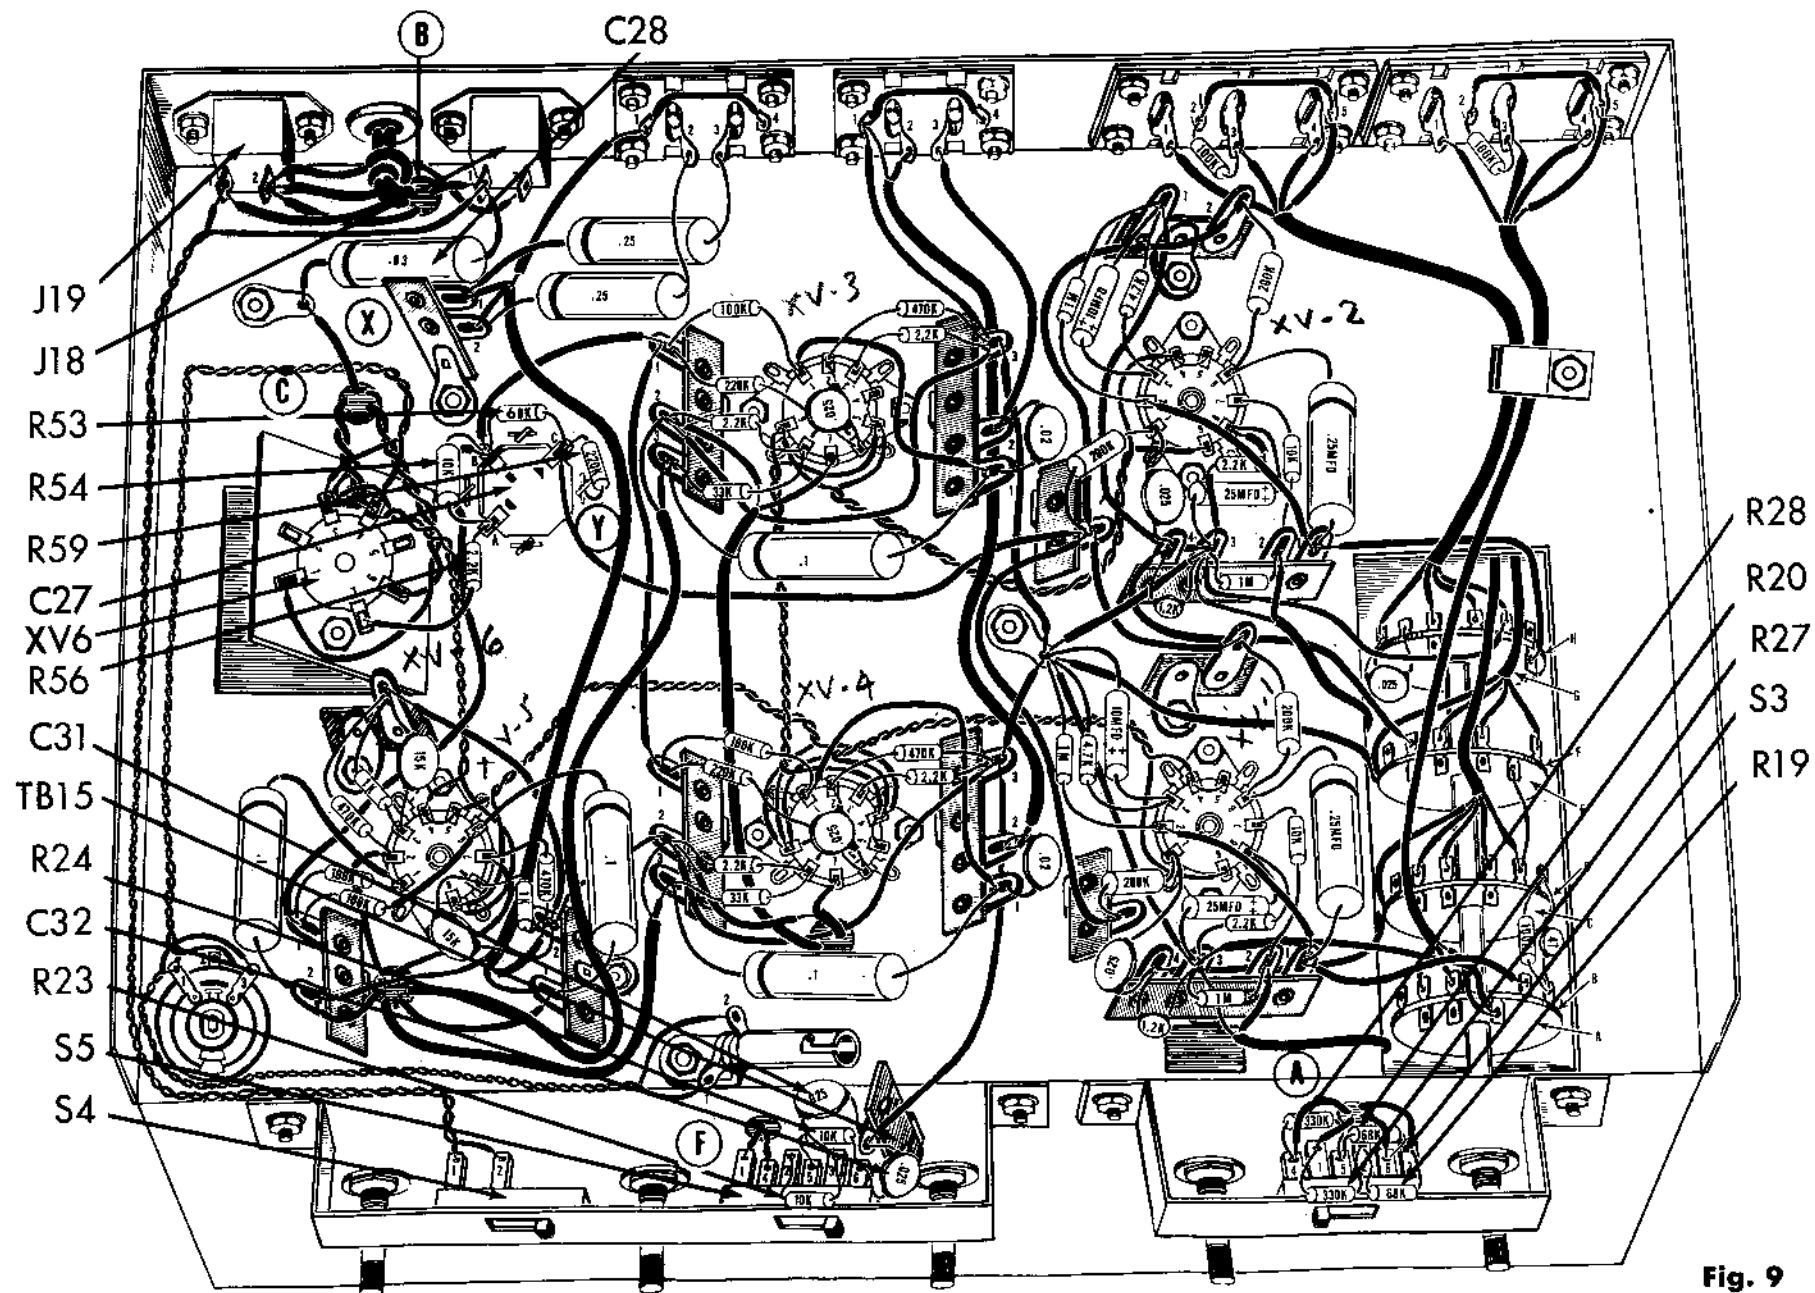

Fig. 9
- ✓ 1. (✓) Fig. 9. On slide switch S3, terminal 1, 2, and 3 are toward the bottom of the chassis (facing the wirer) and 4, 5, and 6 are towards the top of the chassis. From hole "A" in the front of the chassis, connect the violet lead to S3-4 (C), the white lead to S3-6 (C), the blue lead to S3-3 (C) and the green lead to S3-1 (C).
- ✓ 2. (✓) Fig. 9. Cut both leads on two 68K Ω (blue, grey, orange, silver) resistors, R19 and R20, to 1/2". Connect R19 from S3-2 (C) to S3-3 (S2) and R20 from S3-5 (C) to S3-6 (S2).
- ✓ 3. (✓) Fig. 9. Cut both leads on two 330K Ω (orange, orange, yellow, silver) resistors, R27 and R28, to 1/2". Connect R27 from S3-1 (S2) to S3-2 (S2) and R28 from S3-4 (S2) to S3-5 (S2).
- ✓ 4. (✓) Fig. 9. On slide switch S5, terminals 1, 2, and 3 are toward the bottom of the chassis (facing the wirer) and 4, 5, and 6 are towards the top of the chassis. From hole "F", connect one blue wire to S5-1 (S1) and the second blue wire to S5-4 (S1).
- ✓ 5. (✓) Fig. 9. Cut both leads on two 10K Ω (brown, black, orange, silver) resistors, R23 and R24, to 1/2". Connect R23 from S5-2 (S1) to S5-3 (C), and R24 from S5-5 (S1) to S5-6 (C).
- ✓ 6. (✓) Fig. 9. Cut all leads on two .025mfd (25K or 25,000mmf) disc capacitors, C31 and C32, to 1/2". Connect C31 from S5-3 (S2) to TB15 (C) and C32 from S5-6 (S2) to TB15 (S2).
- ✓ 7. (✓) Fig. 9. Cut both leads on a 2.2K Ω (red, red, red, silver) resistor, R56, to 3/4". Cover each lead with a 1/2" piece of spaghetti. Connect from XV6-7 (S1) to C27A (C).
- ✓ 8. (✓) Fig. 9. Cut both leads on a 10K Ω (brown, black, orange, silver) 1 watt resistor, R54, to 1/2". Connect from C27A (S2) to C27B (C).
- ✓ 9. (✓) Fig. 9. Cut both leads on a 68K Ω (blue, grey, orange, silver) resistor, R53, to 1/2". Connect from C27B (S4) to C27C (C).
- ✓ 10. (✓) Fig. 9. Cut both leads on a 220K Ω (red, red, yellow, silver) resistor, R59, to 1/2". Connect from C27C (S2) to ground lug "Y" (S1) at C27.
- ✓ 11. (✓) Fig. 9. Connect a 3" piece of black wire from J18-2 (S1) to J19-2 (C).
- ✓ 12. (✓) Fig. 9. From hole "B", connect one black lead to J18-1 (C) and the second black lead to J19-2 (C).
- ✓ 13. (✓) Fig. 9. Connect one end of a 13" piece of black wire to J18-1 (C) and one end of an 11" piece of grey wire to J19-1 (C). Twist the two leads together and run along the chassis as shown. Connect the grey lead to S4-1 (S1) and the black lead to S4-2 (S1).
- ✓ 14. (✓) Fig. 9. Cut both leads on a .03mfd (orange, black, orange, white, blue) 600 volt, molded capacitor, C28, to 3/4". Cover one lead with a 1/2" piece of spaghetti and connect to J18-1 (S3). Connect the second lead to ground lug "X" (C).
- ✓ 15. (✓) Fig. 9. Connect the red-yellow lead from hole "C" to ground lug "X" (S2).
- ✓ 16. (✓) Fig. 9. Push the line cord through the grommet between the two convenience outlets, J18 and J19. Tie a knot inside the chassis 3" from the end of the cord to be soldered. Connect one lead to J19-2 (S2) and the other lead to J19-1 (S2).